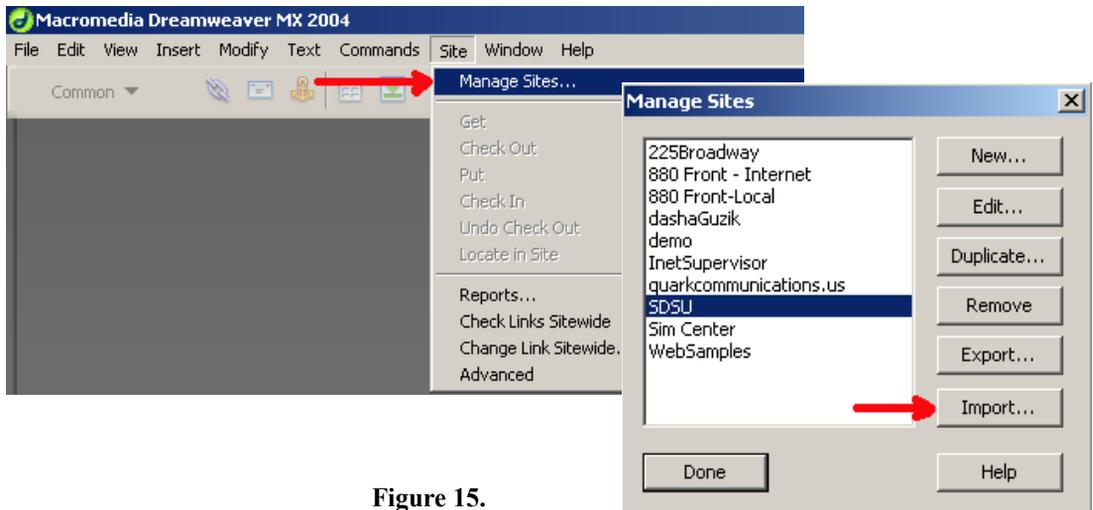

Figure 15.
3. Click *Site/Manage Sites*, then *Import* from the *Site Menu* pictured on the right of **Figure 15**. This may differ for some versions of *DreamWeaver*, i.e. *Site/Edit Site/Import*. Point to *HMI.ste* file located in *C:\LonWorks\apps\QCI\Others* directory. This will automatically configure the *DreamWeaver* to work with the installed web site framework.